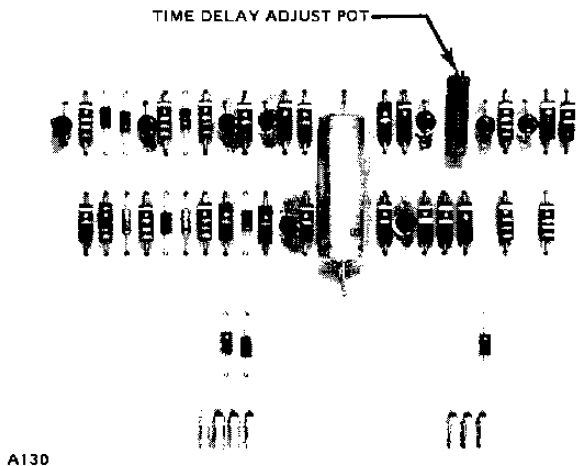

Figure 4—Relay Drive Board
**Relay Drive - Board No. 1**—The relay drive board (Figure 4) provides the circuitry to operate the Instant, Timed and Fault relays and contains the time delay adjustment potentiometer.